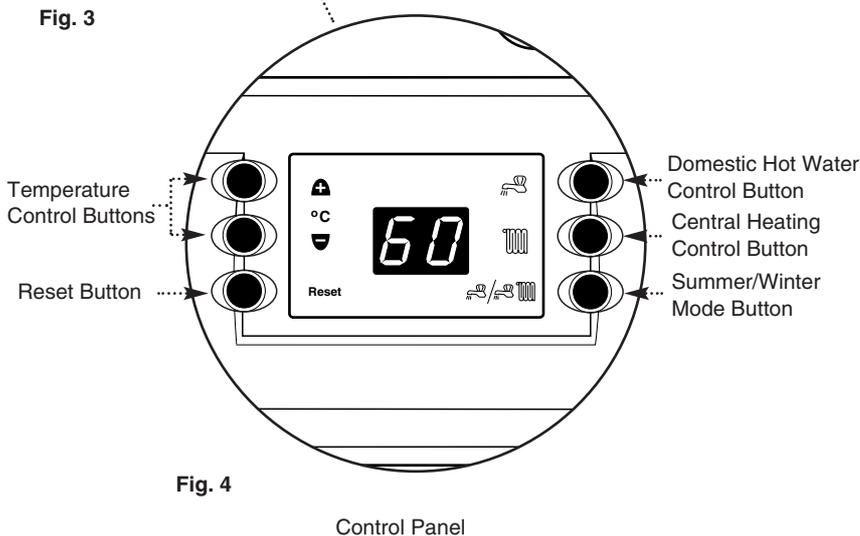

Fig. 4
2. To set the required temperature, press and hold the Central Heating Control Button () whilst adjusting the necessary Temperature Control Button (Fig. 4).
2. To set the required temperature, press and hold the Domestic Hot Water Control Button () whilst adjusting the necessary Temperature Control Button (Fig. 4).
2. If the red flame failure light is on, press the Reset button () (Fig. 4) until the red flame failure light goes off.